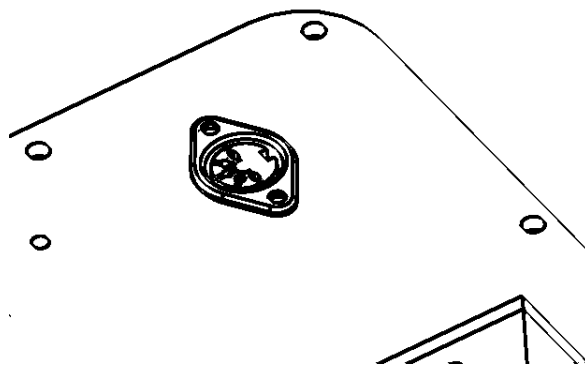

Figure 10. 5-pin DIN Connector.
7. Plug the 5-pin DIN connector (male receptacle) from the AC-DC Adapter into the 5-pin DIN connector (female socket) on the bottom panel subassembly shown in Fig. 10. The 5-pin connector is keyed so it only fits one way.